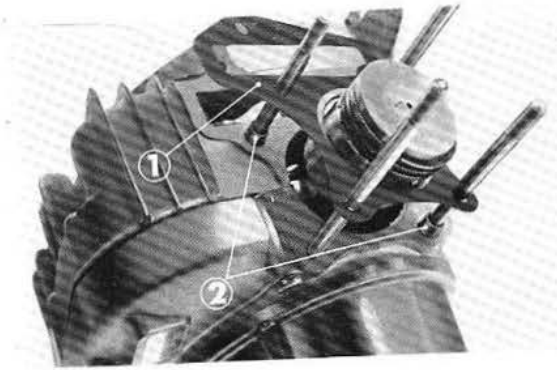

Fig. 2-34 ① Cylinder gasket
4. Before installing the cylinder, make sure that the cylinder gasket and the two hollow dowel pins are in place. (Fig. 2-34)